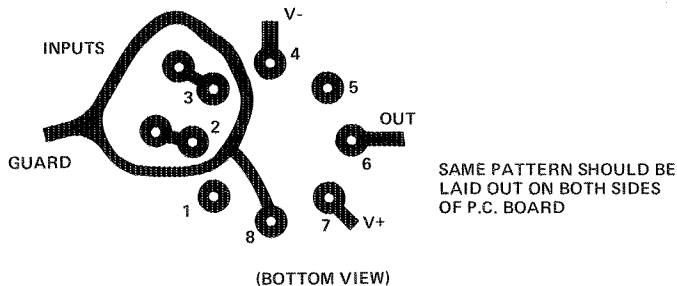
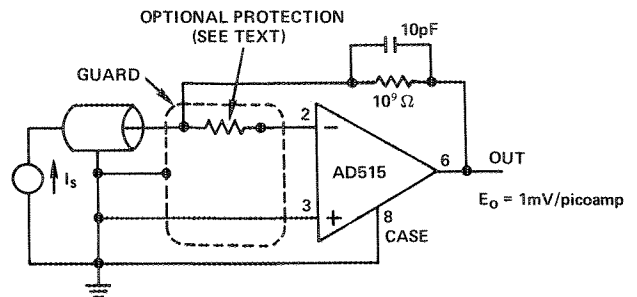
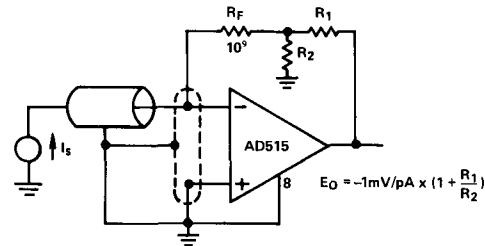

Figure 1. Board Layout for Guarding Inputs with Guarded TO-99 Package
Figure 2. Picoampere Current-to-Voltage Converter Inverting Configuration
Figure 13. Picoampere to Voltage Converter with Gain
2. The use of guarding techniques is essential to realizing the capability of the ultra-low input currents of the AD515. Guarding is achieved by applying a low impedance bootstrap potential to the outside of the insulation material surrounding the high impedance signal line. This bootstrap potential is held at the same level as that of the high impedance line; therefore, there is no voltage drop across the insulation, and hence, no leakage. The guard will also act as a shield to reduce noise pickup and serves an additional function of reducing the effective capacitance to the input line. The case of the AD515 is brought out separately to pin 8 so that the case can also be connected to the guard potential. This technique virtually eliminates potential leakage paths across the package insulation, provides a noise shield for the sensitive circuitry, and reduces common-mode input capacitance to about 0.2pF. Figure 1 shows a proper printed circuit board layout for input guarding and connecting the case guard. Figures 2 and 3 show guarding connections for typical inverting and non-inverting applications. If pin 8 is not used for guarding, it should be connected to ground or a power supply to reduce noise.
3. Printed circuit board layout and construction is critical for achieving the ultimate in low leakage performance that the AD515 can deliver. The best performance will be realized by using a teflon IC socket for the AD515; but at least a teflon stand-off should be used for the high-impedance lead. If this is not feasible, the input guarding scheme shown in Figure 1 will minimize leakage as much as possible; the guard ring should be applied to both sides of the board. The guard ring is connected to a low impedance potential at the same level as the inputs. High impedance signal lines should not be extended for any unnecessary length on a printed circuit; to minimize noise and leakage, they must be carried in rigid, shielded cables.
Many instrumentation situations, such as flame detectors in gas chromatographs, involve measurement of low level currents from high-voltage sources. In such applications, a sensor fault condition may apply a very high potential to the input of the current-to-voltage converting amplifier. This possibility necessitates some form of input protection. Many electrometer type devices, especially CMOS designs, can require elaborate zener protection schemes which often compromise overall performance. The AD515 requires input protection only if the source is not current-limited, and as such is similar to many JFET-input designs. The failure mode would be overheating from excess current rather than voltage breakdown. If the source is not current-limited, all that is required is a resistor in series with the affected input terminal so that the maximum overload current is 0.5mA (for example, 200k Ω for a 100 volt overload). This simple scheme will cause no significant reduction in performance and give complete overload protection. Figures 2 and 3 show proper connections.
The conductor-to-shield capacitance of coaxial cable is normally about 30pF/foot. Charging this capacitance can cause considerable stretching of high impedance signal rise-time, thus cancelling the low input capacitance feature of the AD515. There are two ways to circumvent this problem. For inverting signals or low-level current measurements, the signal is carried on the line connected to the inverting input and shielded (guarded) by the ground line as shown in Figure 2. Since the signal is always at virtual ground, no voltage change is required and no capacitances are charged. In many circumstances, this will de-stabilize the circuit; if so, capacitance from output to inverting input will stabilize the circuit.
Figure 2 shows a standard low-level current-to-voltage converter. To obtain higher sensitivity, it is obvious to simply use a higher value feedback resistor. However, high value resistors above $10^9\Omega$ tend to be expensive, large, noisy and unstable. To avoid this, it may be desirable to use a circuit configuration with output gain, as in Figure 13. The drawback is that input errors of offset voltage drift and noise are multiplied by the same gain, but the precision performance of the AD515 makes the tradeoff easier.